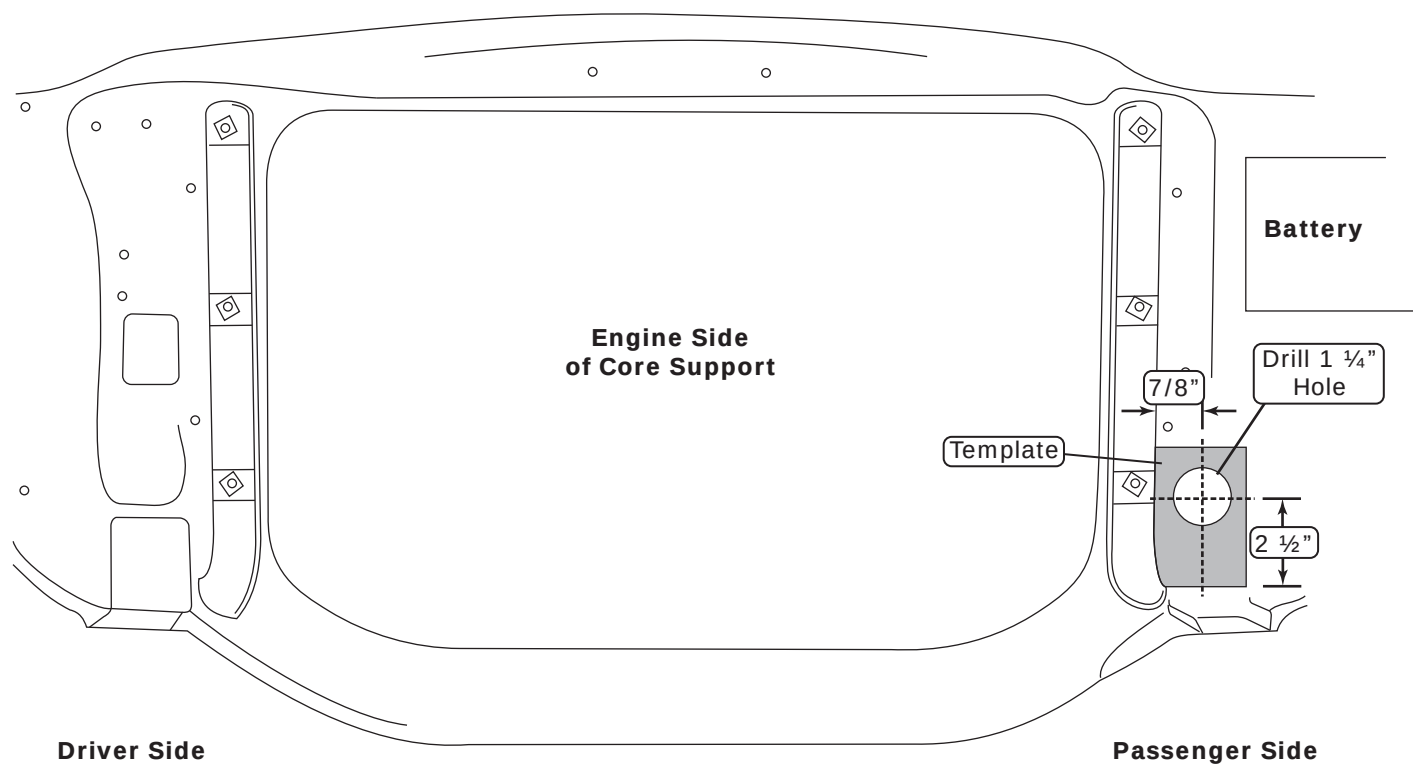

Figure 1
2. Using a 1 1/4" hole saw, drill a hole in the core support (See Figure 1, below).